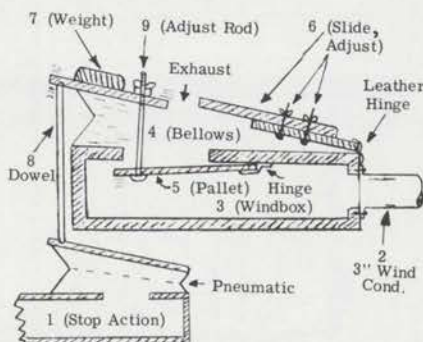

Figure 1. Bellows tremulant cross section.
Figure 1 shows the kind of tremulant commonly used on high pressure unit organs, a "bellows" type. It also shows: the stop action which controls the tremulants (1), the 3" wind conductor (2) which is connected to the regulator (also called reservoir) or the pipe chest. No. 3 is the wind box on which the bellows is mounted, 4 is the bellows, 5 the pallet (also called valve) which opens and closes the bellows, 6 is the adjustable slide controlling the exhaust, 7 the weight, and 8 is a dowel resting on a pneumatic controlled by the stop action (electric circuit not shown) connected to the tremolo stopkey at the console. When the stop action pneumatic deflates, the dowel drops, allowing the tremulant bellows to fall. This opens the pallet, admits wind to the tremulant bellows and starts the tremulant action. Other devices may be used to control the tremulant "Off and On." No. 9 is the adjusting rod which raises or lowers the pallet and determines the amount of air allowed to enter the tremulant bellows.